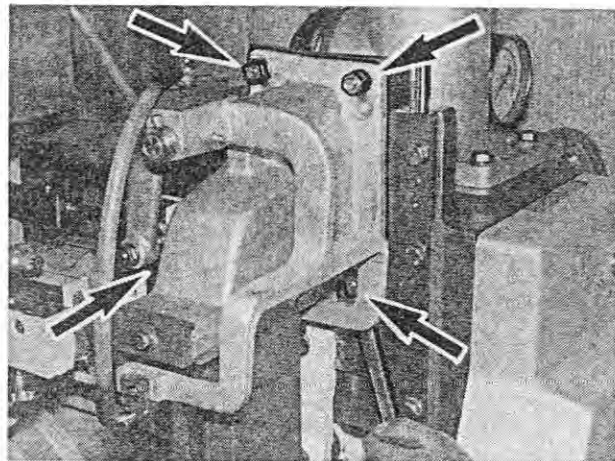

Fig. 141
8. Loosen the hex nuts (Figure 141/arrows) a few turns. Pull the filling cock and the die from the pusher plate. Raise and pull them off over the hex nuts.